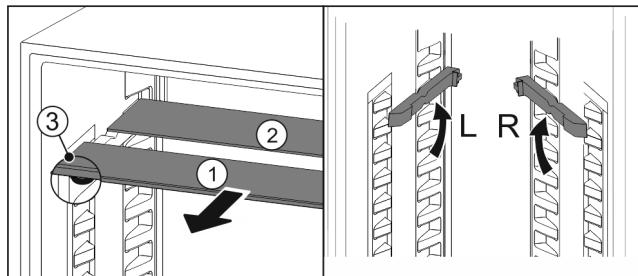

Fig. 112
- ▶ Pull the glass panels out Fig. 112 (1) from the front, one at a time.
- ▶ The glass panel Fig. 112 (1) and trim strip are at the front.
- The stops Fig. 112 (3) point down.